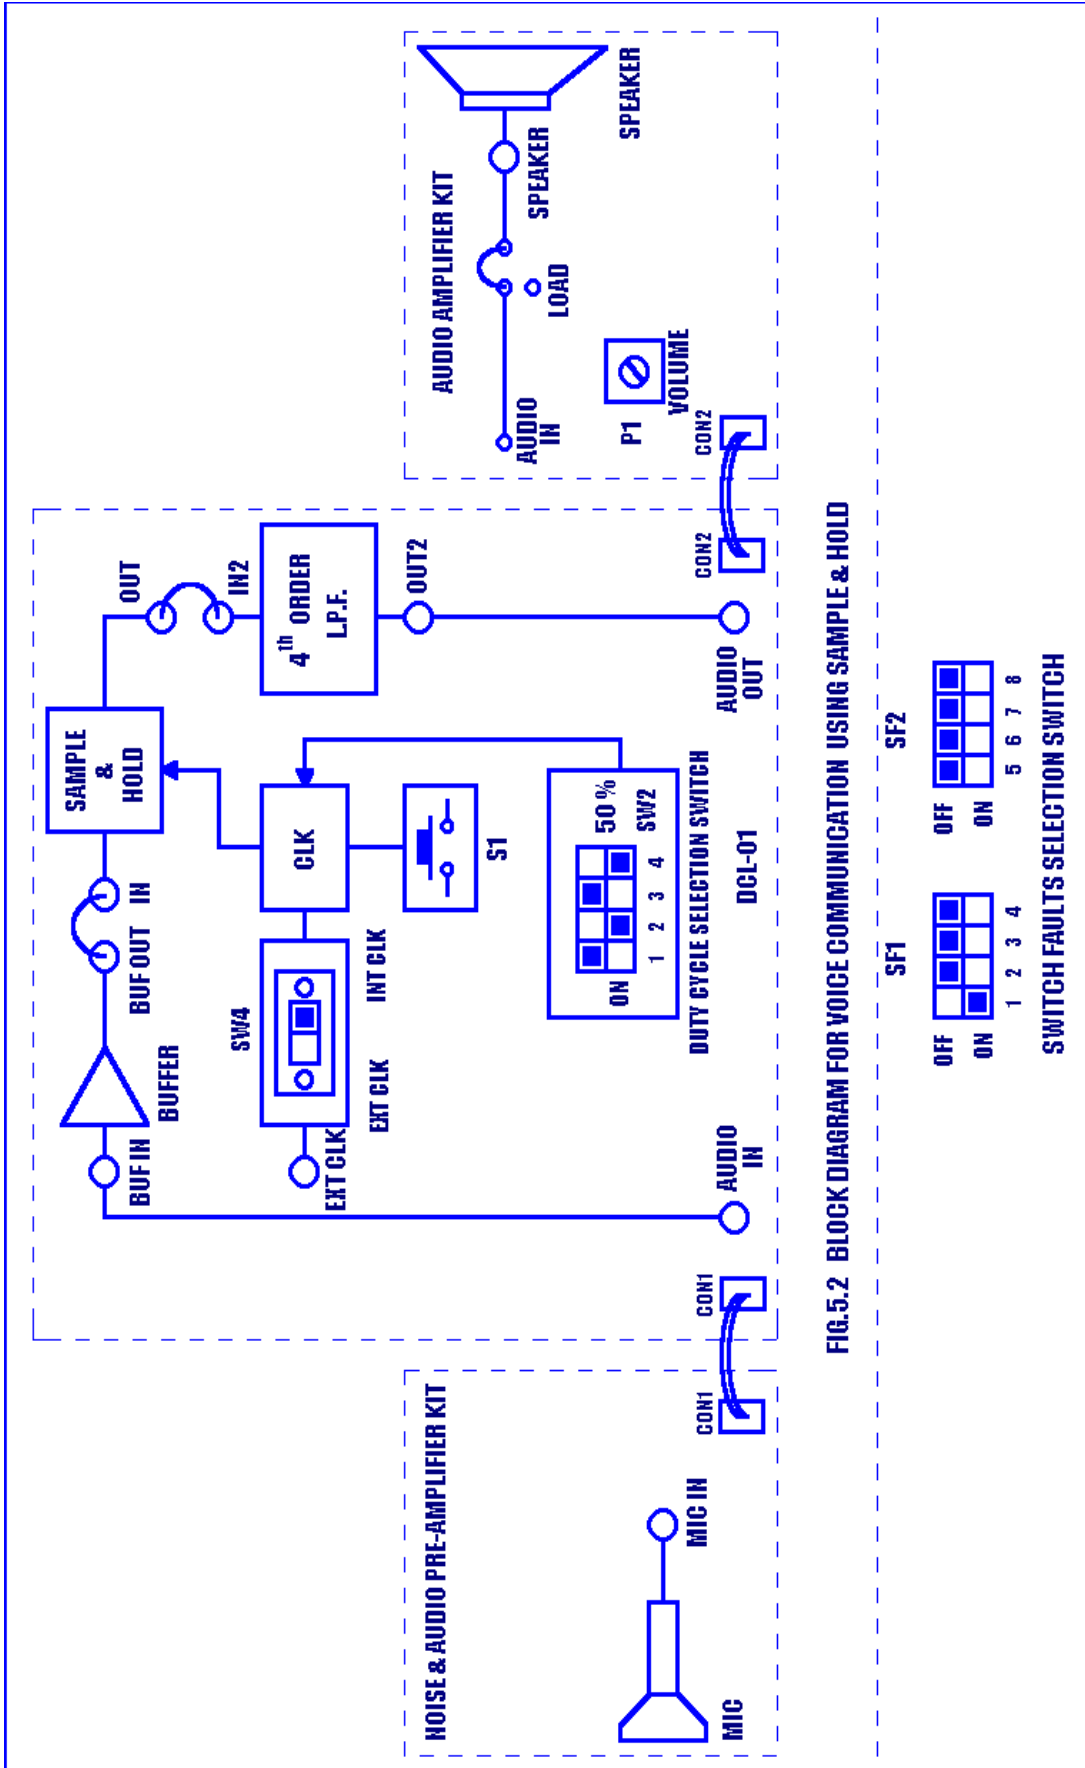
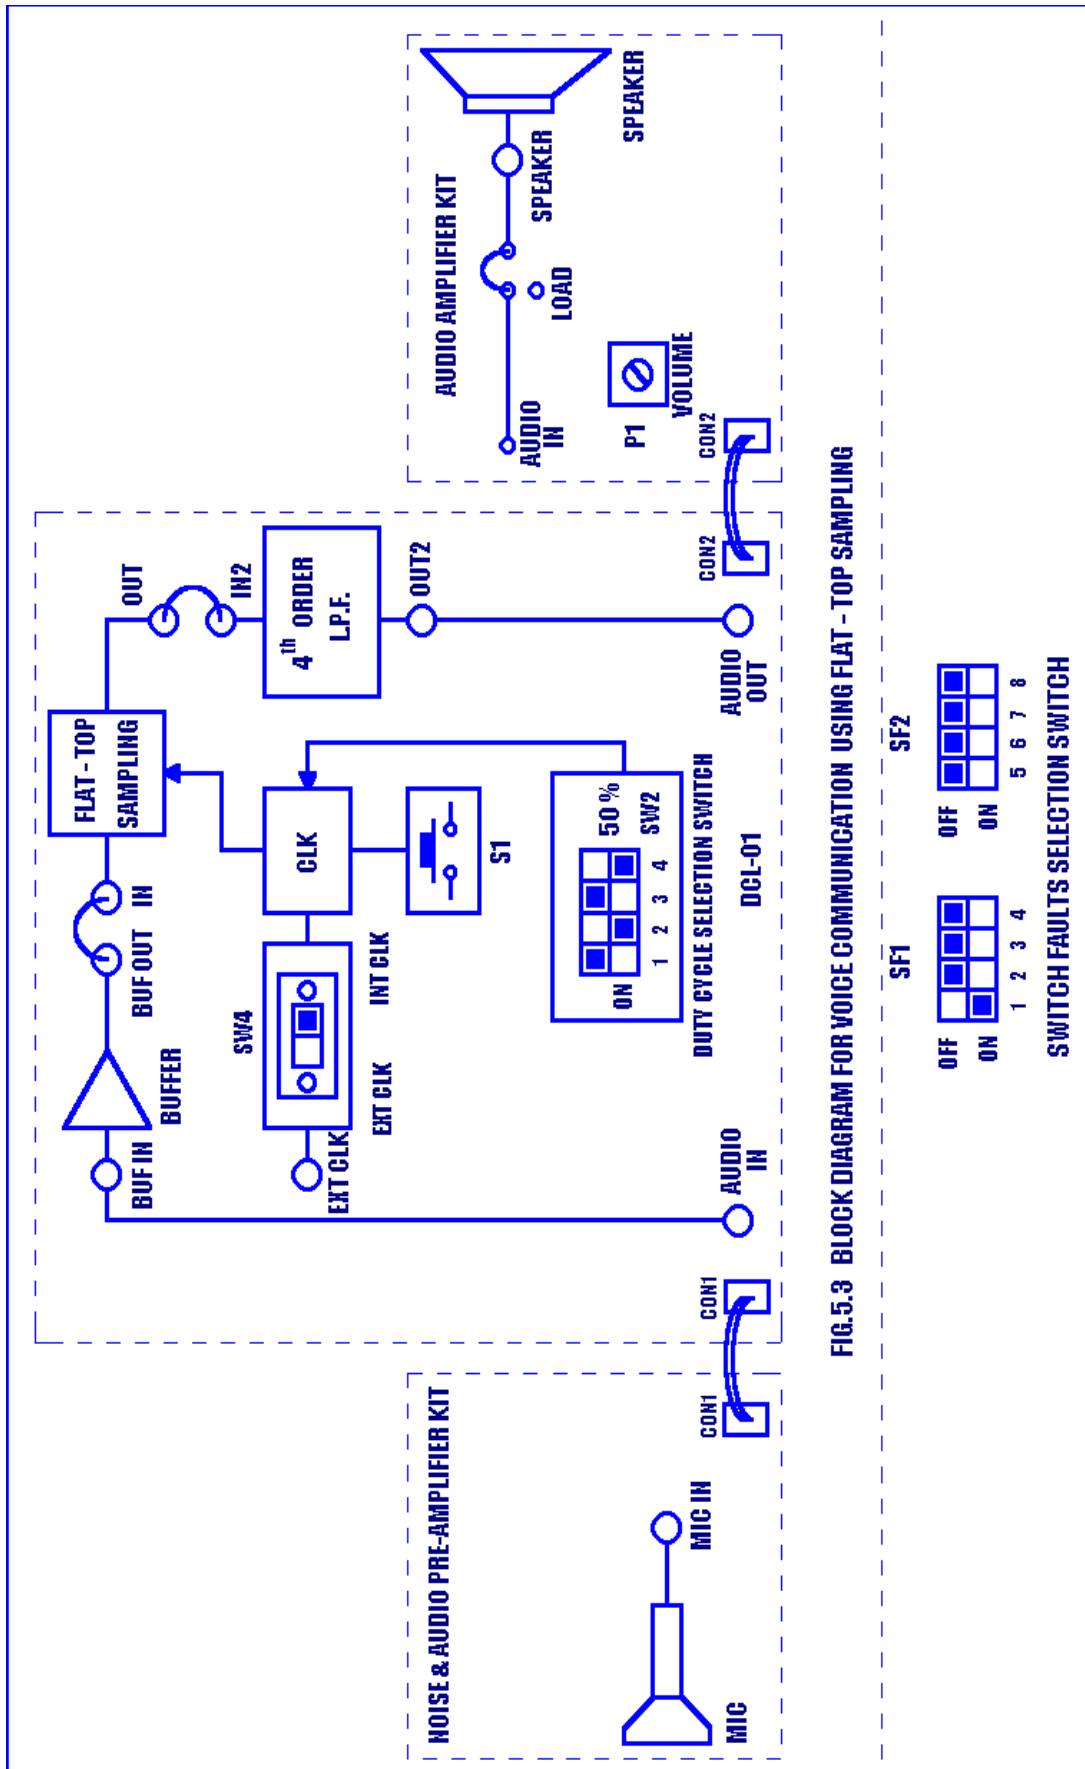

FIG.5.2 BLOCK DIAGRAM FOR VOICE COMMUNICATION USING SAMPLE & HOLD
FIG.5.3 BLOCK DIAGRAM FOR VOICE COMMUNICATION USING FLAT - TOP SAMPLING
15. Repeat voice link through Sample and Hold (Fig. 5.2) & Flat Top sampling (Fig. 5.3) techniques by referring the experimental procedure of the same.